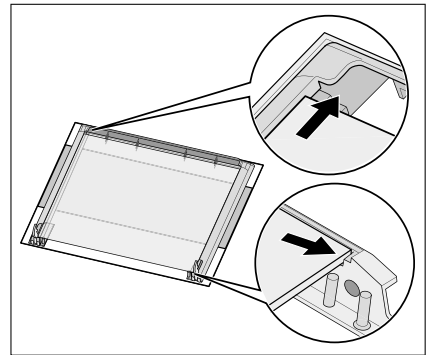

Fig. 12
- c) the uppermost pane must be reassembled as shown in Fig. 12.